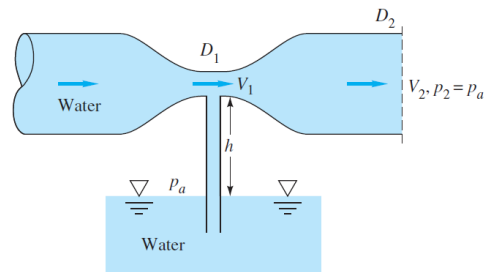

Fig. 3.17
3.17 A necked-down section in a pipe flow, called a venturi, develops a low throat pressure that can aspirate fluid upward from a reservoir, as in Fig. 3.17. Using Bernoulli's equation with no losses, derive an expression for the velocity V_1 that is just sufficient to bring reservoir fluid into the throat.